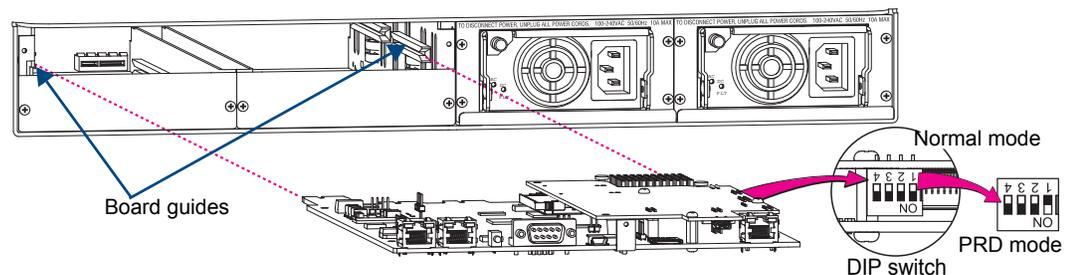

FIG. 137 Set Position #1 DIP switch to ON for NI Series
- Slowly slide the CPU board back into the empty slot, being careful to align the edges in the board guides along the insides (FIG. 137).